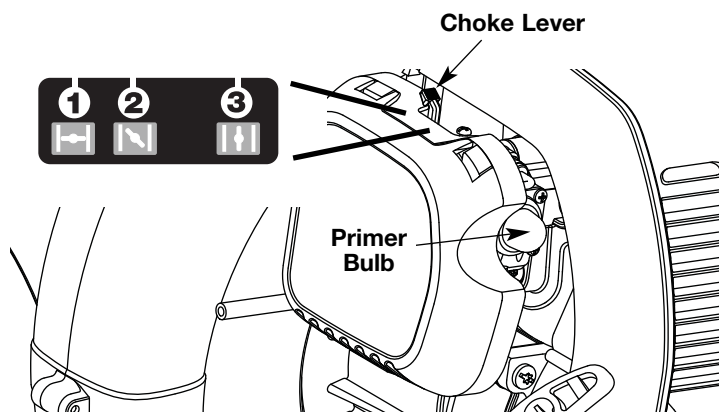

Fig. 14
3. Fully press and release the primer bulb 10 times, slowly. Some amount of **fuel should be visible in the primer bulb and fuel lines** (Fig. 14). If you can't see fuel in the bulb, press and release the bulb as many times as it takes before you can see fuel in it.
4. Place the choke lever in **Position 1** (Fig. 14).
IF... the engine does not start, place the choke lever in **Position 2** (Fig. 14) and pull 4 times in smooth and rapid pulls to start engine.
6. Place the choke lever in **Position 2** (Fig. 14) and allow the engine to warm up for 5–10 seconds.
7. Place the choke lever in **Position 3** (Fig. 14). The unit is ready for use.